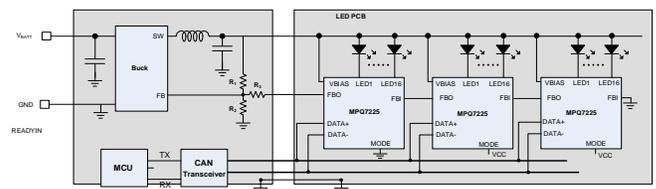

Figure 21: AFC™ Modulator Network
Figure 21 shows the AFC™ modulator network.
For example, when the MPQ7225 has 2 LEDs in series (V_{LED} = 6.3V), set V_{BIAS_O} = 7.1V when FBO is open. If the DC/DC converter’s V_{FB} is 0.8V (based on Equation (6)), select R₁ = 100kΩ so that R₂ = 12.7kΩ. If the N is set to 100 via the OTP, set R₃ = 100kΩ. Then the pre-V_{BIAS} voltage is 6.71V based on Equation (5). When N changes from 14 to 244, V_{BIAS} changes from 5.9V to 7.6V, so consider the pre-V_{BIAS} value set via the OTP, as well as resistor selection when making this connection. The connection in Figure 21 minimizes the V_{BIAS} range.